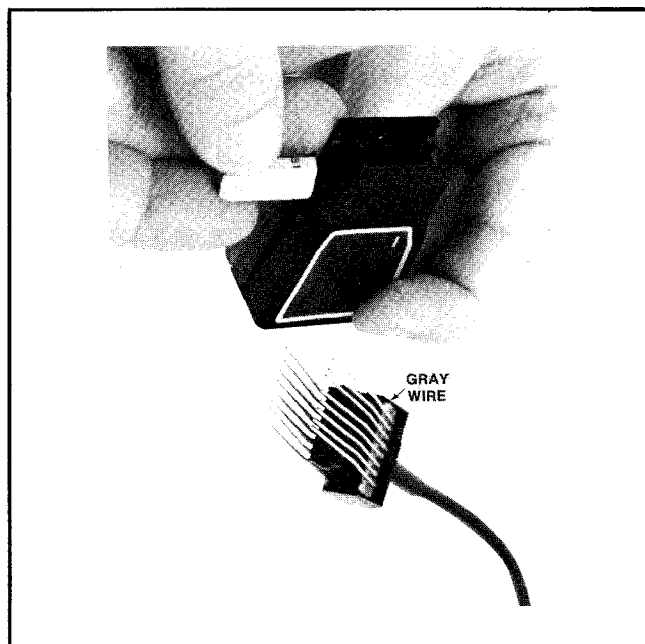

Figure 3
8. Insert the rubber pad between the covers just behind the pin guides as shown in Figure 3. Check for burrs on the detent rounds of the body.